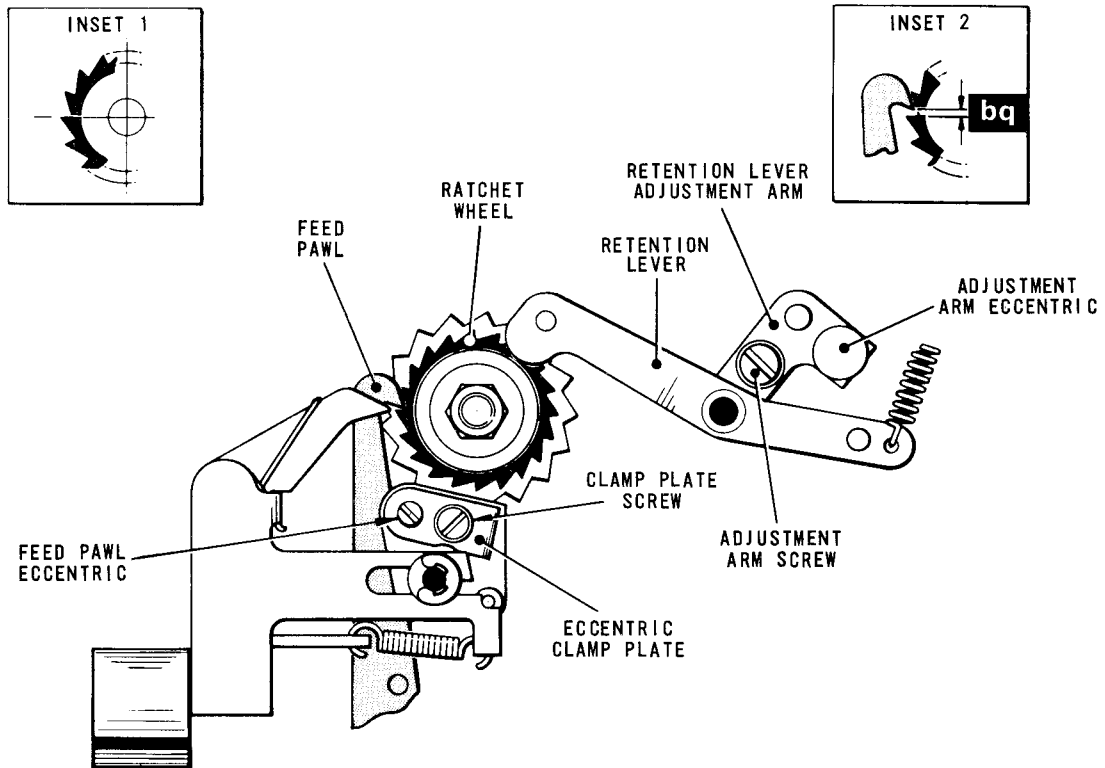

Fig. 4.79 TAPE FEED MECHANISM
- 95.1 With the machine in the rest condition, check that the ratchet wheel, Fig.4.79, is so positioned that the engagement face of one of its teeth is in the horizontal plane, as shown in inset 1.
- 96.1 With the machine in the rest condition, check that there is an estimated clearance of .020 in. (dimension 'bq' - inset 2) between the operating face of the feed pawl, Fig.4.79, and the nearest tooth of the ratchet wheel.
- 97.1 Operate the feed pawl, Fig.4.79, by hand and check that on its downward movement the pawl engages one tooth only of the ratchet wheel.
- (a) Lift the retention lever, Fig.4.79, out of engagement with the extention wheel.